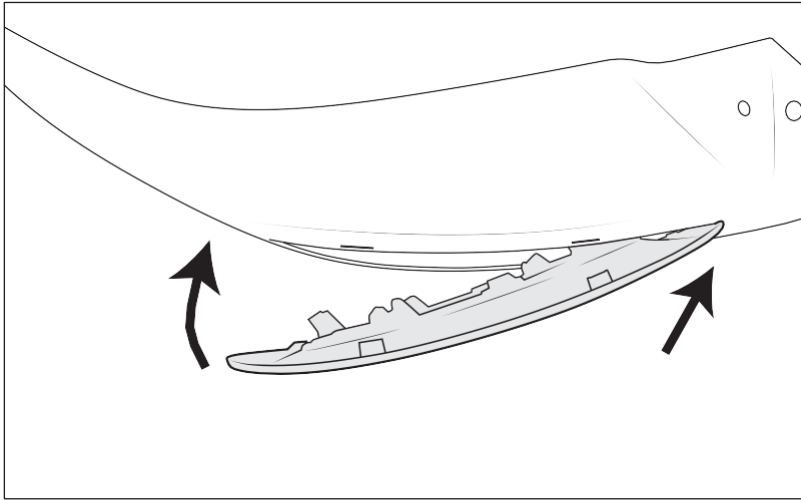

Figure 32
- D. Carefully position the bezel on the bumper corner and install. It helps to start by hooking one end of the bezel onto the corner and working across the bezel. Ensure that all metal clips are fully seated and both plastic tabs are snapped into place (fig. 32).